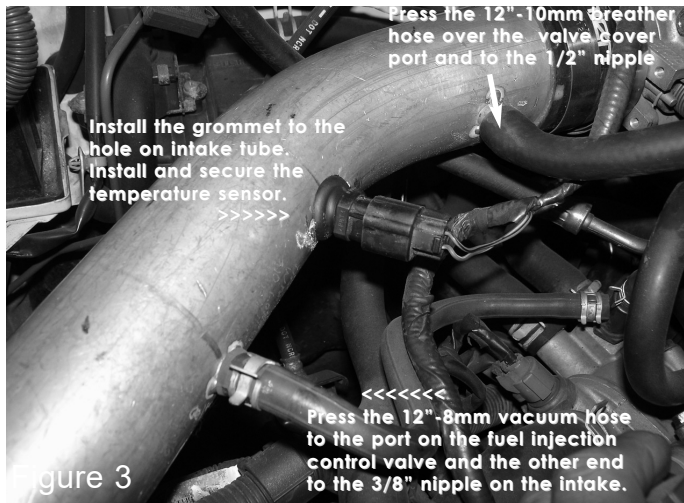

Figure 3
- 5 Screw in the 6mm vibra mount in place as illustrated above. See fig. 3
- 6 Take the cold air intake and insert the nipple end into the hose on the throttle body while aligning the filter end in place. The intake bracket will sit on top of the vibra-mount as seen in figure 3, use the m6 nut and washer to secure the bracket.
- 8 The 12"-8mm hose will connect to the ports on the fuel injection control valve and to the 3/8" nipple on the intake. See fig. 3
- 9 Install the grommet to hole on tube and secure the temp sensor. See fig. 3